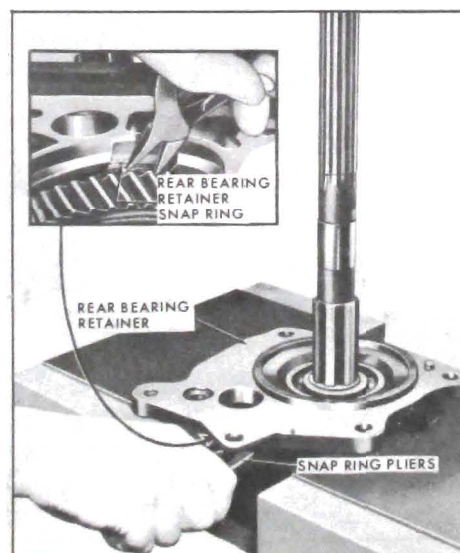

Figure 72-410 - Removing Rear Bearing From Retainer
2. Spread rear bearing retainer snap ring and press mainshaft out of retainer. See Figure 72-410.